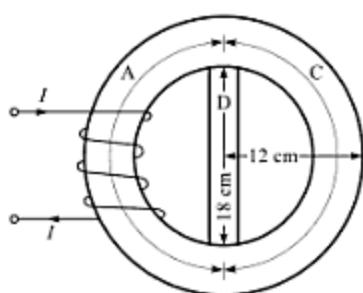

Fig. 6.16
12. A cast steel ring has an external diameter of 24 cm and a square cross-section of 3 cm side. Inside and across the ring, an iron bar of dimensions $18 \text{ cm} \times 3 \text{ cm} \times 0.4 \text{ cm}$ is tightly fit with no air gap, as shown in Fig. 6.16. Neglecting flux leakage, determine the ampere turns required to be applied to one-half of the ring so as to produce a flux density of 1.0 T